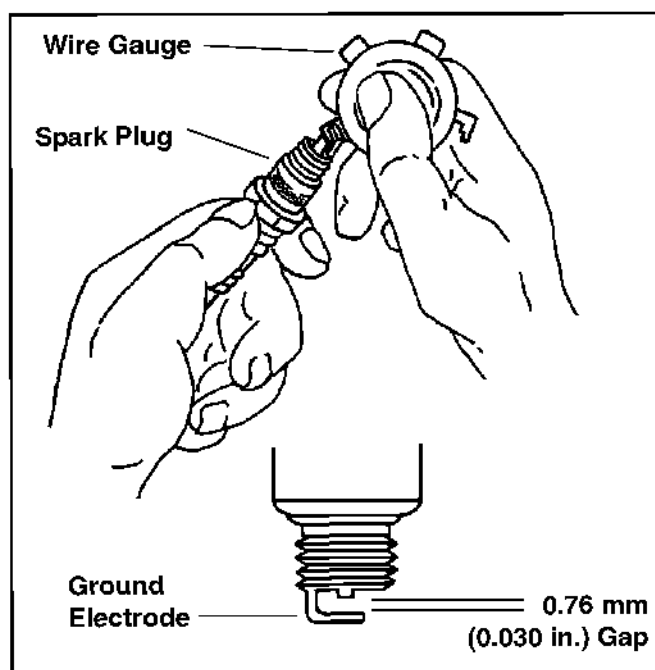

Figure 16. Servicing Spark Plug.
3. Check the gap using a wire feeler gauge. Adjust the gap to **0.76 mm (0.030 in.)** by carefully bending the ground electrode. See Figure 16.